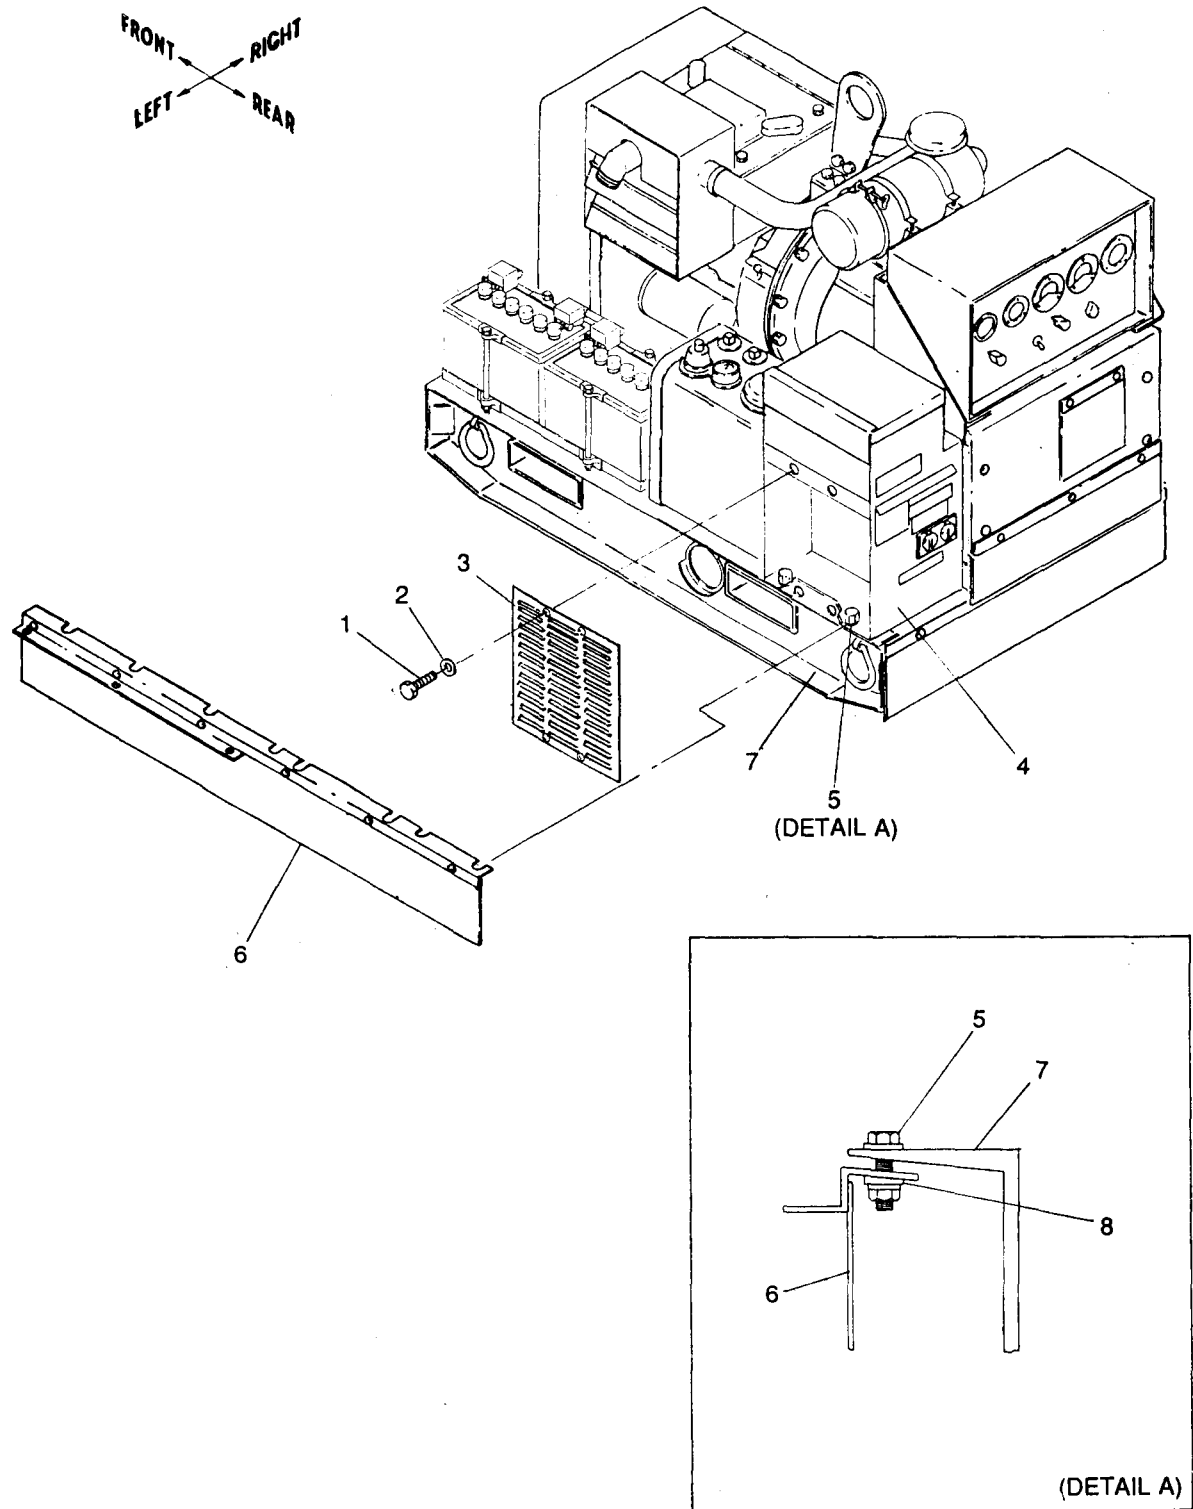

Figure 10-2. Installation of Left Support Assembly
(1) Refer to figure 10-2 to remove four screws (1) and lockwashers (2) securing access plate (3) to AC output control box assembly (4).
(2) Cut a 50 in. length of adhesive backed teflon tape (listed in Table 10-1, item 2). Apply adhesive backed teflon tape to a clean left support assembly top surface (surface that mounts against underside of skid frame). Use hand pressure to remove air bubbles. Clear teflon tape away from screw slots.
(3) Loosen six existing screws (5) and slide left support assembly (6) between skid (7) and bevel washers (8) as shown in figure 10-2, detail A.
(4) Torque six existing screws (5) to 26 ±2 ft-lbs dry.
(5) Refer to figure 10-2 to replace four screws (1) and lockwashers (2) which secure access plate (3) to AC output control box assembly (4).